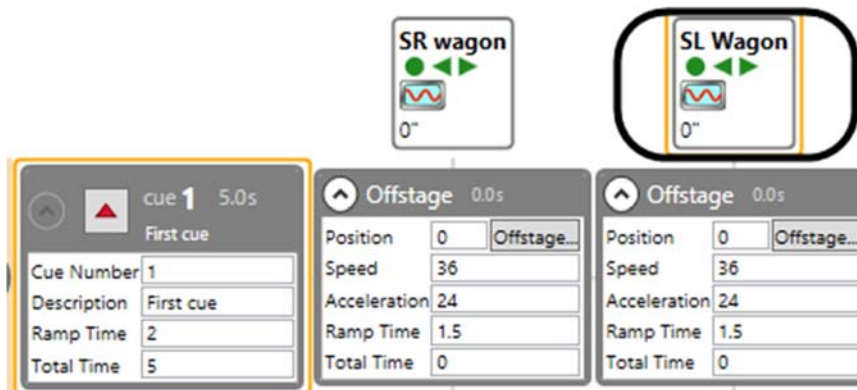

Figure 115
3. Press the **Tab** key or click out of the field, to update the name. The new motor name will be updated in the **Cue Grid** (Figure 115).